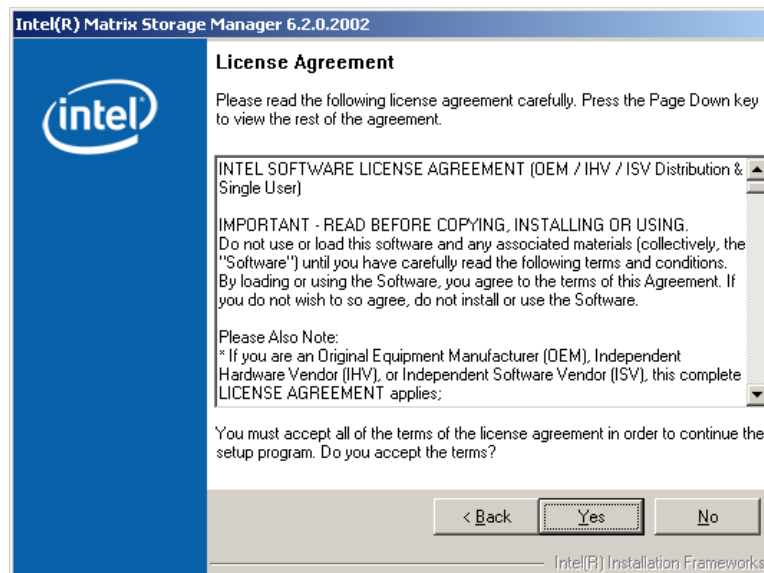

Figure 7-41: Matrix Storage Manager License Agreement
Step 9: Click **NEXT** and a license agreement appears (**Figure 7-41**).